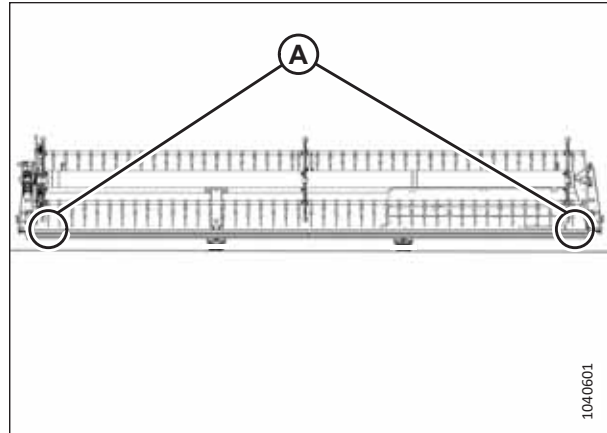

Figure 4.273: Single-Reel Header Measurement Locations
- Figure 4.273, page 654 – single-reel headers